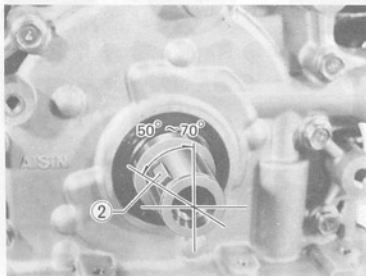

Fig. 4-129
Before installing the rocker-arm shaft on the head, be sure to locate the crankshaft keyway ② in the 50° - 70° angular range, as shown in Fig. 4-129.